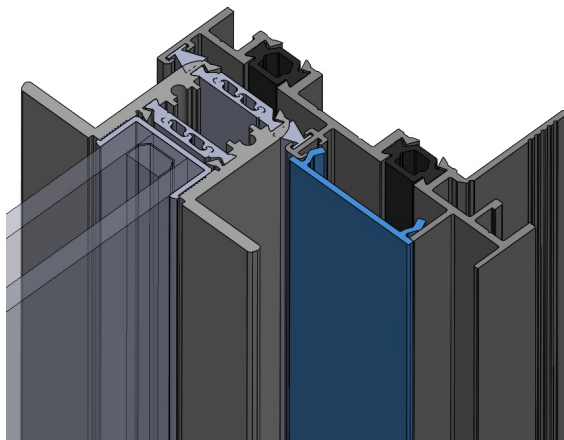
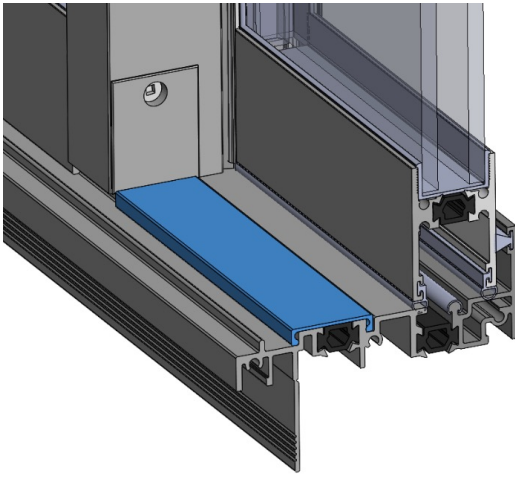

Figure 6
Figure 7
10. With panels in final positions, locate and install the corresponding jamb fillers into their respective tracks (highlighted blue in Figure 6) and the sill anchor cover (highlighted blue in Figure 7).